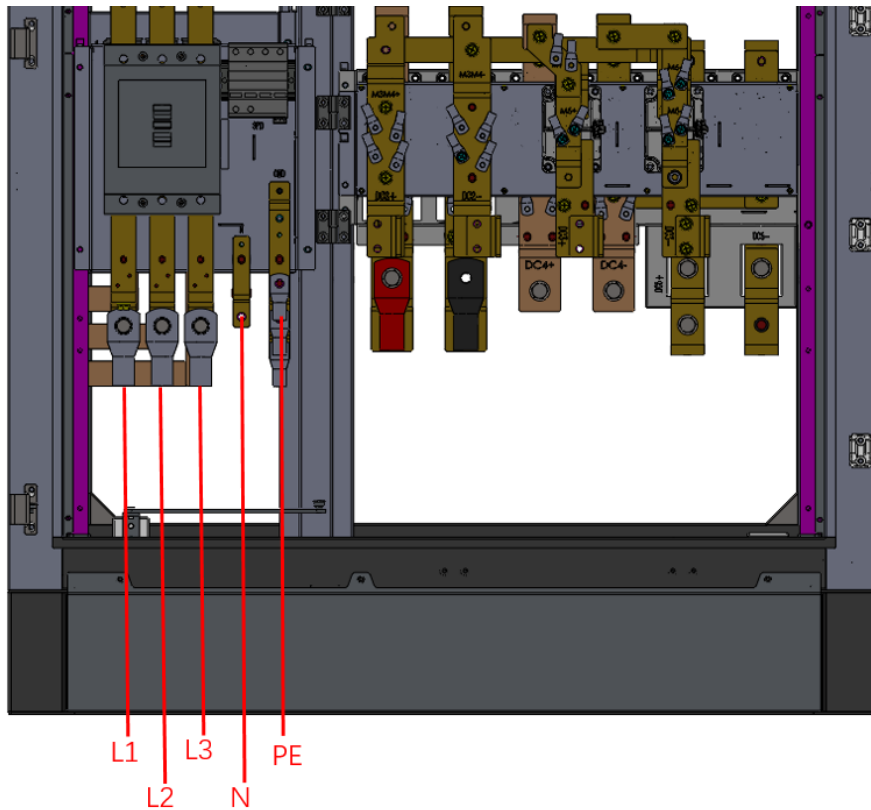

Figure 29 Schematic diagram of AC power copper busbar in power cabinet
(2) AC power cable wiring of power cabinet: Connect the power cable to the wiring copper busbar in both power cabinets. The wiring copper busbar is shown in Figure 29. The neutral line is optional.